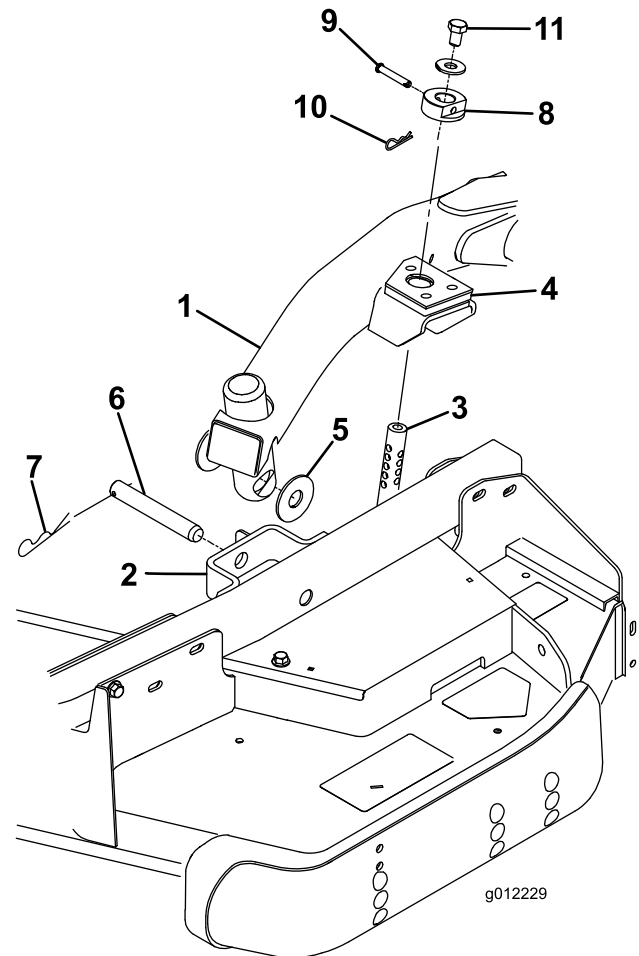

Figure 4
2. Move the lift lever to the Float position. Push a lift arm down until the holes in the lift arm line up with the holes in the castor arm bracket and the height of cut rod can be inserted into the lift arm pads (Figure 4).
3. Secure the lift arm to the castor arm with 2 thrust washers, a clevis pin and a hair pin cotter. Position the thrust washers between the lift arm and the castor arm bracket (Figure 4). Insert end of cotter pin into the slot in the castor arm tab to retain cotter pin.
7. Install the height of cut collars onto the height of cut rods and secure with the clevis pins and hair pin cottes (Figure 4). Position the head of the clevis pin toward the front of the deck, if possible.
8. Install a bolt (1/2 x 3/4 inch) and a washer to top of each height of cut rod (Figure 4).